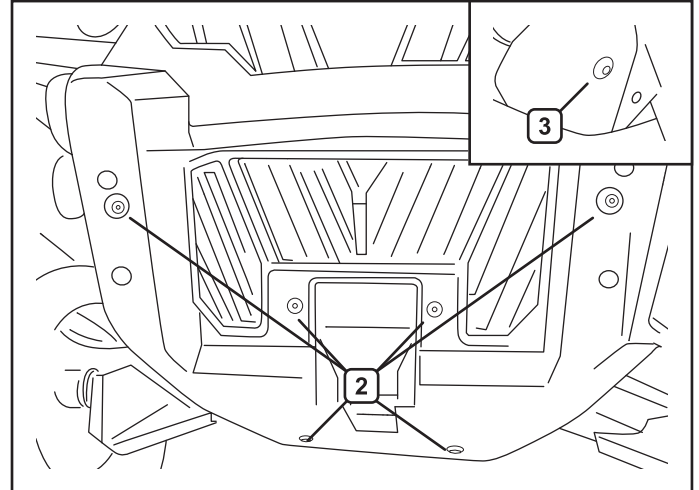

Figure 2.
2. Remove front fascia and bottom deflector by removing eight fasteners (2, 3) and two plastic rivets (4) shown in figures 2 and 3.